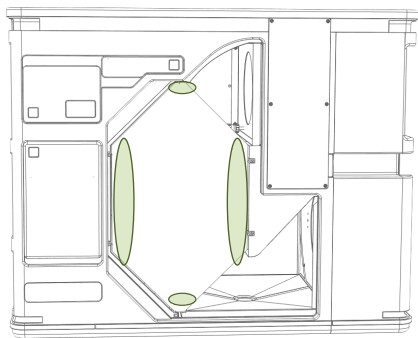

Fig. no. 46 Permissible pressure zones of the exchanger.
4. After inserting the exchanger, press its corners according to the Fig. no. 46, to minimize leakage on the rear wall.